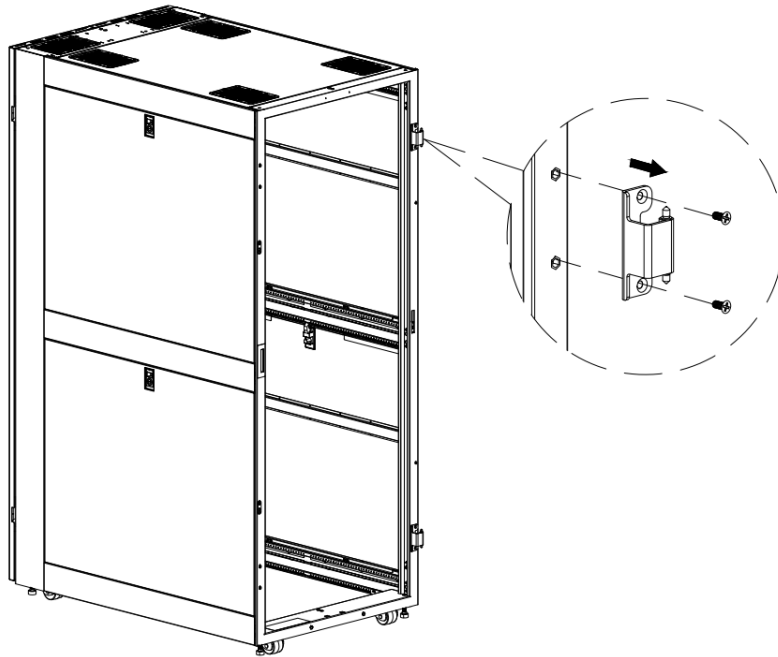

Figure 6.3.5
- Loosen and remove screws from the hinges, torque of 56.4 lb-in (6.3 N•m), and set them aside for reuse in a later step. (Figure 6.3.5)